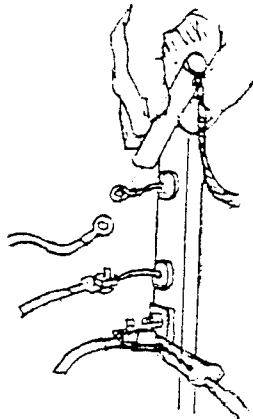

FIGURE 4
- (b) A short circuit failure of one or both diodes. First disconnect one diode. Using a low voltage continuity tester check each diode as shown in Figure 4. Then reverse the tester leads and check each diode again. If the diode conducts current in both directions the diode is shorted and must be replaced. Replace either the entire heat-sink assembly or the defective diode. When replacing a single diode be sure the new diode is pressed squarely into the hole and does not extend beyond the rear surface of the heat-sink plate.